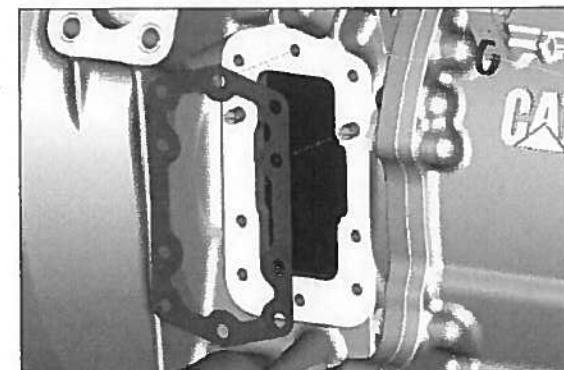

Fig. 26
4. Install the special gasket over the guide pins. The ribbed surface should face outward, toward the installer (**Fig. 26**).